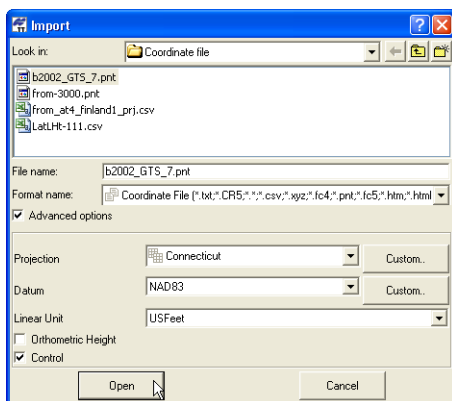

Figure 3-5. Import Coordinate Files
5. Clicking the **Open** button on the **Import** window imports the file to the job. The data is displayed in the *Points* tab (Figure 3-5 on page 3-9).